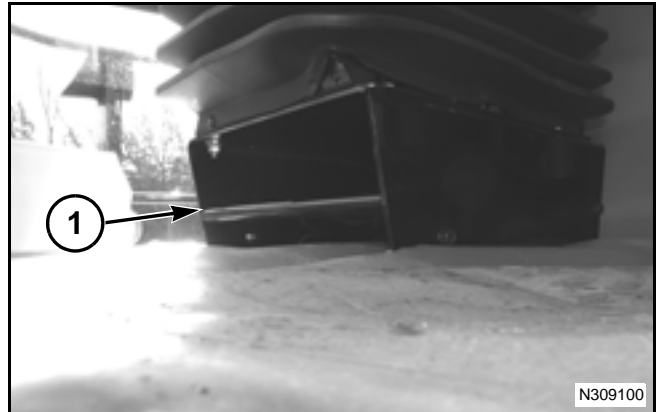

FIG. 3
FIG. 3: The Operator Manual is stored in the holder (1) located on the windrower tractor. After using the Operator Manual, return the manual to the storage location.